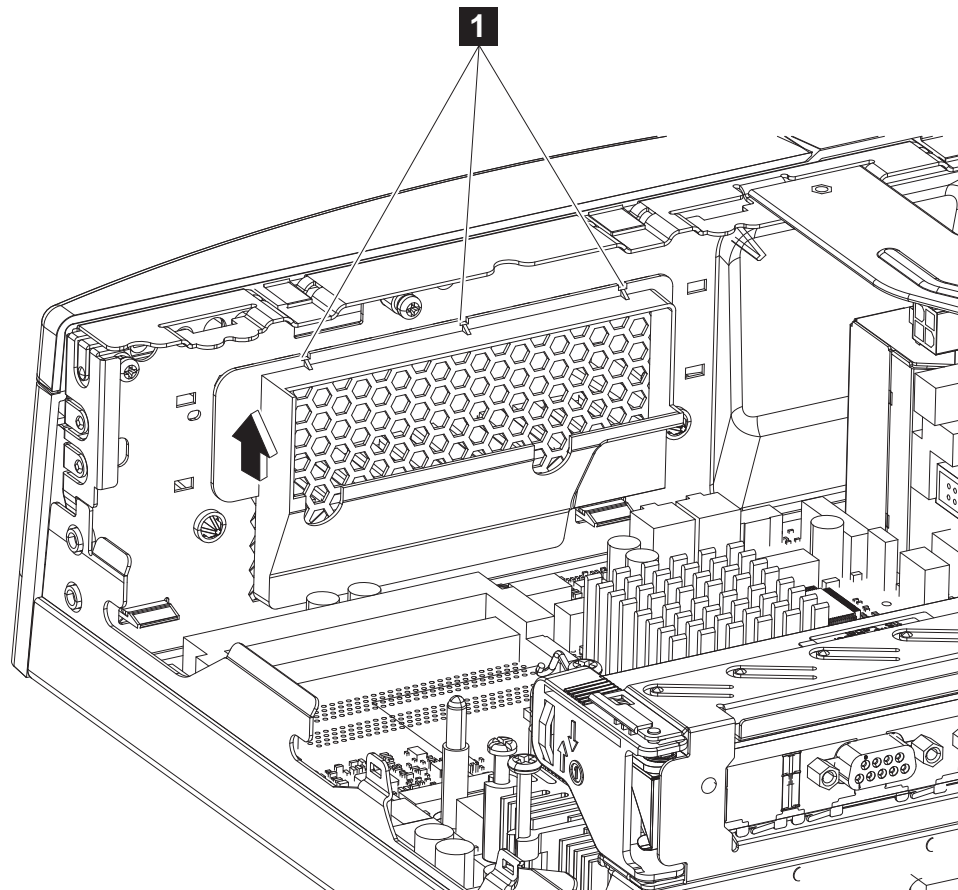

Figure 28. Removing the hard drive air duct from a Model x5x
Figure 28 is a diagram of the hard disk drive air duct of the IBM SurePos 300 for Model x5x.
3. Using a small flat blade screw driver, unlatch the snap latches **1** on the left and right sides of the hard drive air duct and remove the air duct (see Figure 28).